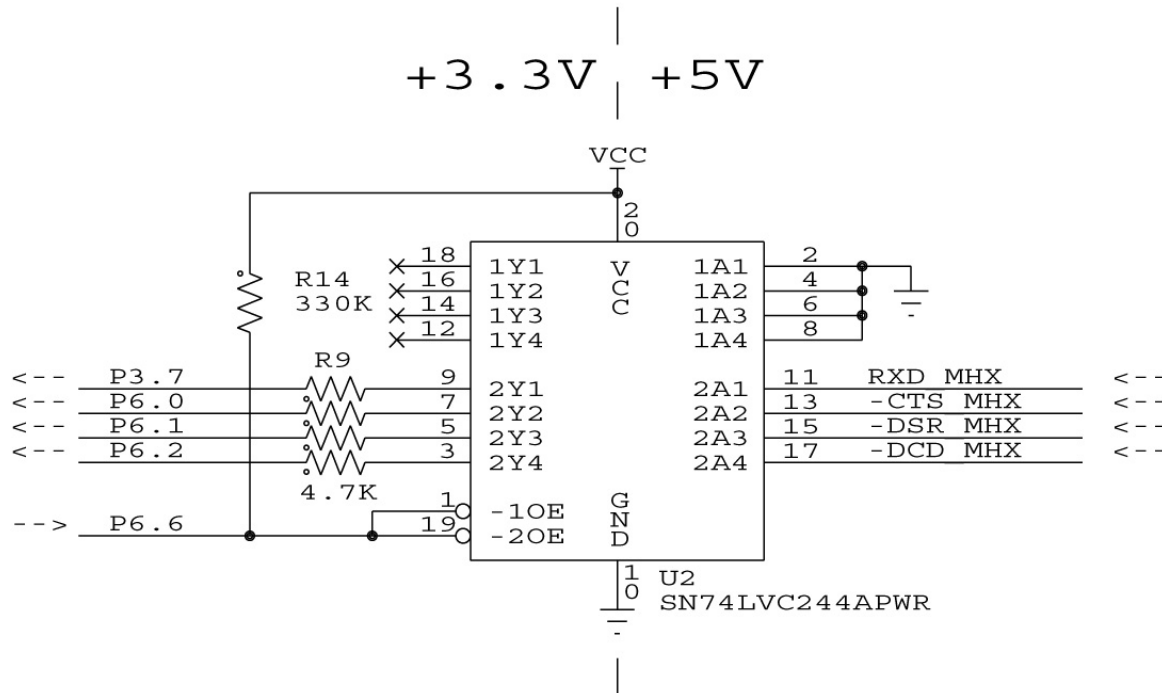
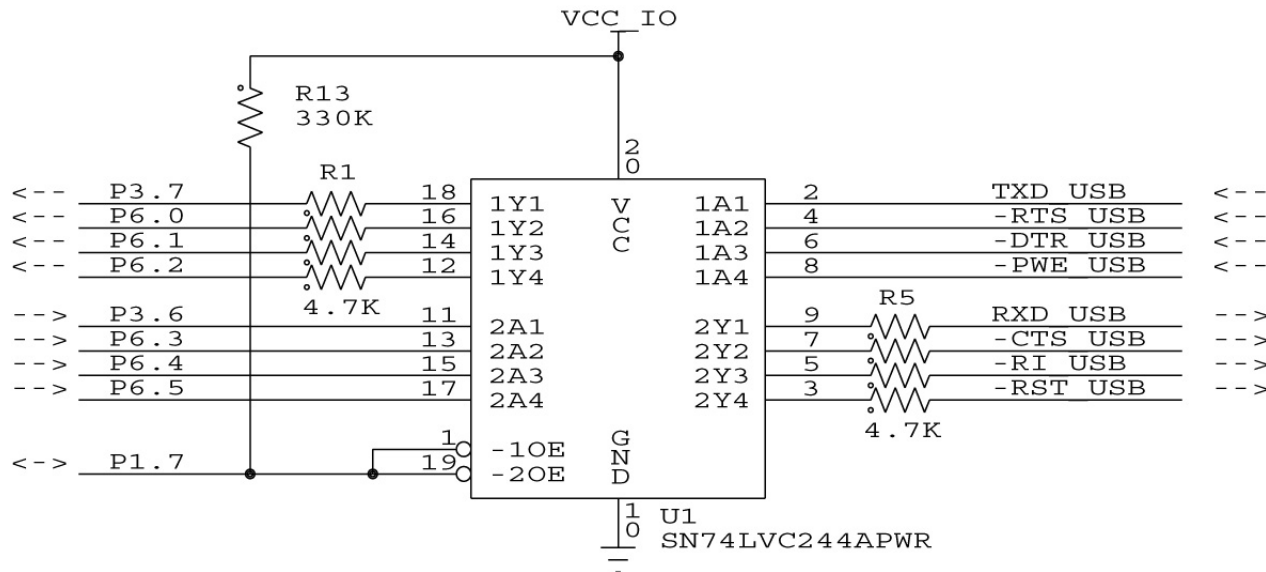

Figure 6: Level-shifting down to +3.3V and Isolating using LVC Logic
Figure 7: 3.3V Isolation Driven by Presence of External Power VCC\_IO
- To translate and isolate 5V down to 3.3V, we use half of an LVC244A powered at 3.3V (permanently). The  $-\text{OE}$  control signal must also pulled to the chip's VCC for minimum power consumption and power-on / power-off isolation (Figure 6).
- When USB cable is removed, LVC244A automatically isolates MSP430 from FT232BM through its partial power-down mode (Figure 7).
- Figure 6 and Figure 7 illustrate this technique.  $4.7k\Omega$  series limiting resistors chosen for adequate margin under all possible operating conditions (including user error).